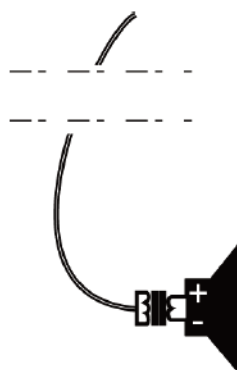

Figure 26 Schematic Diagram of the Loudspeaker and Audio Cable Connection
3. Connect the loudspeaker to the other end of the audio cable, as shown in Figure 26.